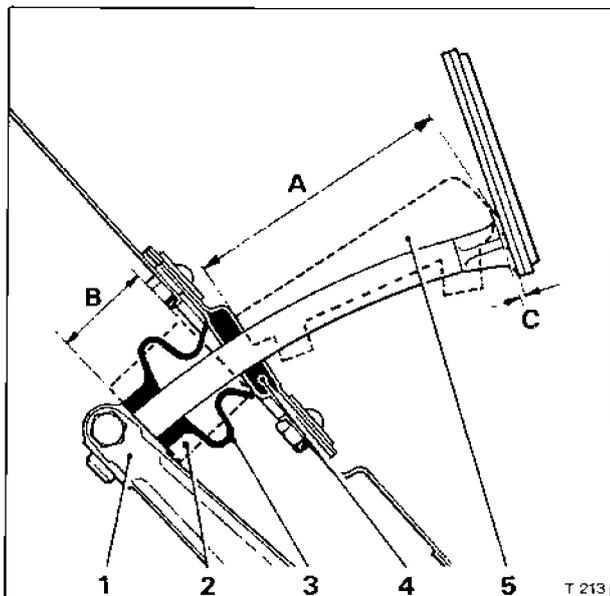

Fig. G12-4 Brake pedal height settings
Brake pedal height setting (see figs. G12-4 and G12-5) This setting can only be carried out with the actuation linkage assembly fitted to the car.
1. Locate the setting gauge into the brake pedal stem hole in the end of the pedal lever (see fig. G12-4). Raise the pedal lever until the gauge touches the underside of the toeboard seal housing.
Brake pedal height – To check (see fig. G12-4)